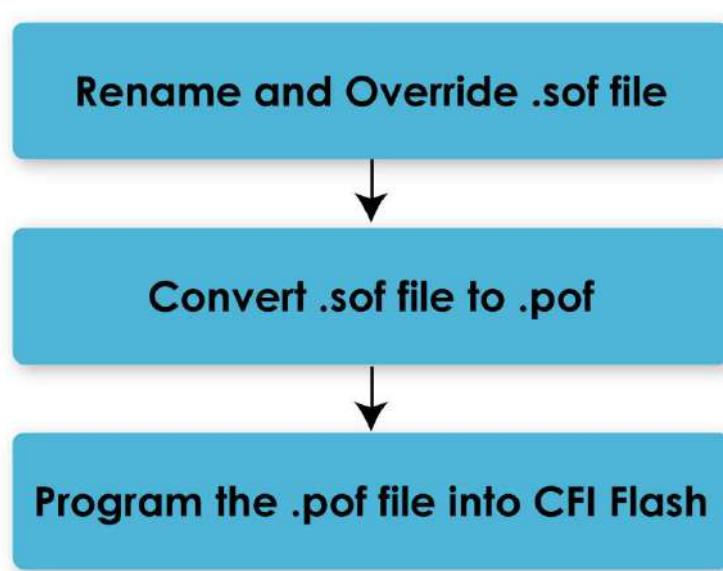

Figure 4-7 Program Flash flow
**Figure 4-7** shows the standard CFI Flash programming steps. Users first need to convert the bit stream file (.sof) generated by their Quartus project into a Programmer Object File (.pof) file through the Quartus programmer tool. Then use the Quartus programmer tool to connect with the System MAX10 FPGA on the DE10-Agilex board through the JTAG interface and program the .pof file into CFI Flash. In order to help users to quickly program the CFI Flash on the board, Terasic provides some batch files so that users can quickly complete the operations for the CFI Flash such as erasing and programming. Users can find these batch files under the path: